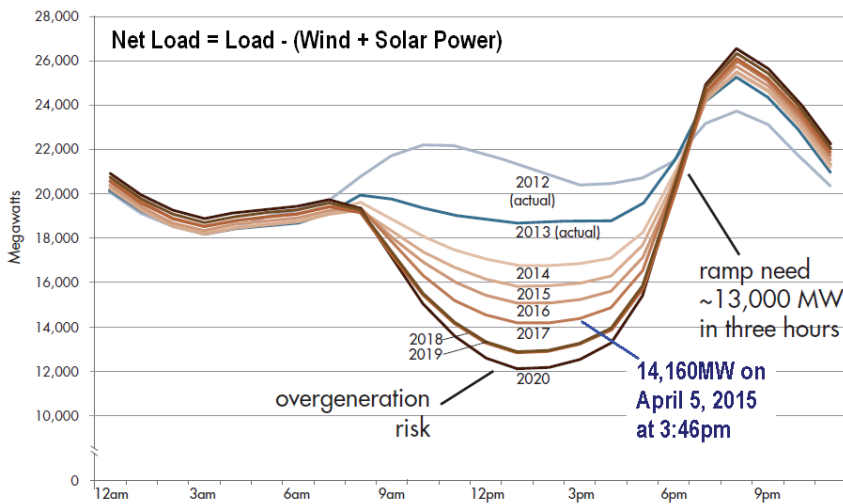

Figure 1
**THE RAPID GROWTH OF SOLAR ENERGY** deployment causes major challenges to grid stability known in the industry as “The Duck Curve”. Figure 1 is the “Net Load” graph by the California Independent System Operator (ISO). During the non-summer months on an average day, the grid can run into the risk of over-generation from 11am to 5pm, and then need to ramp up generation quickly from 5pm to 8pm as solar drops off.